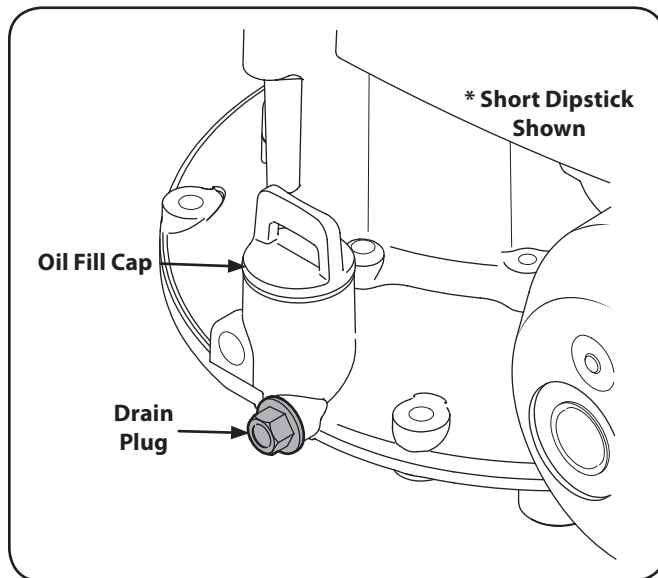

Figure 6-1
2. Remove drain plug and allow oil to drain into a suitable container. See Figure 6-1.